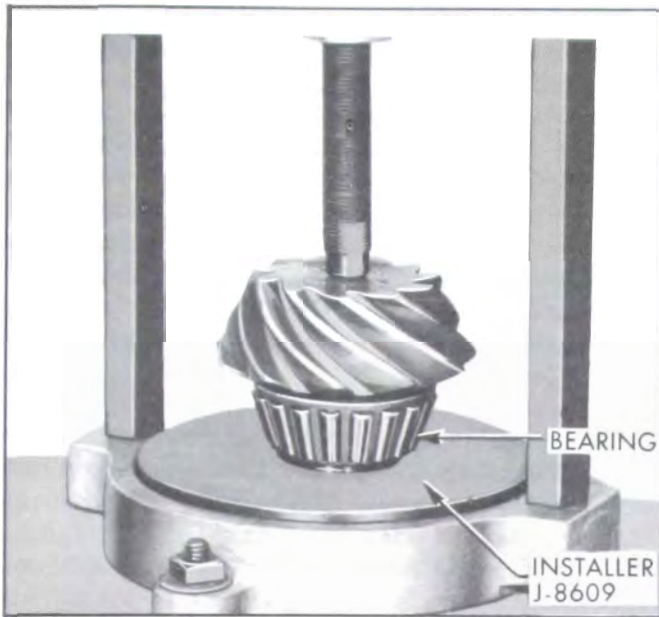

Figure 6-24—Installing Rear Pinion Bearing
3. Place original pinion shim on pinion and install rear pinion bearing using Installer J-8609 in an arbor press or as shown in Figure 6-24.
5. Reinstall rear pinion bearing on pinion with new thickness shim. See Figure 6-24.